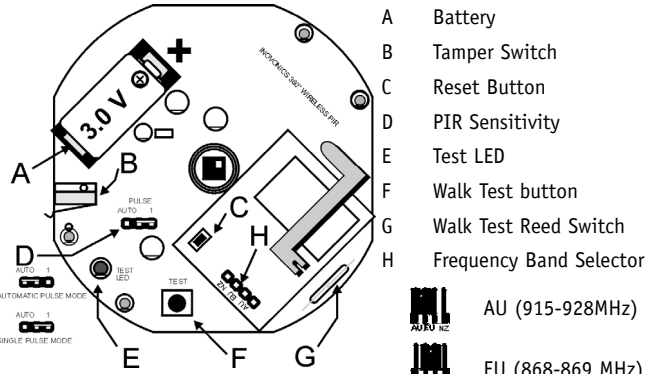

Figure 1
5. Set Pulse Sensitivity jumper in desired position. Set Frequency Band Selector. (See Figure 1.)
false alarms. The Single Pulse Count mode is more sensitive to minor temperature variations, and should be used in sites where variant heat sources will not cause alarms (See Figure 1.)
2. To register a transmitter: when prompted by the receiver to "Reset Transmitter", press the Reset button. (See Figure 1.) Replace the ES1265 cover. Follow instructions to test the transmitter.
With the cover on the unit, quickly (less than 1/2 second) pass a magnet near the Walk Test Reed Switch (Figure 1-G). This activates a 1-minute walk test mode. Within this period, the Test LED will light every time the PIR senses motion. The unit will not transmit alarm signals during this test period.
Frequency	User selectable for Europe, Australia, New Zealand, US and MF4232 receivers. See Figure 1.